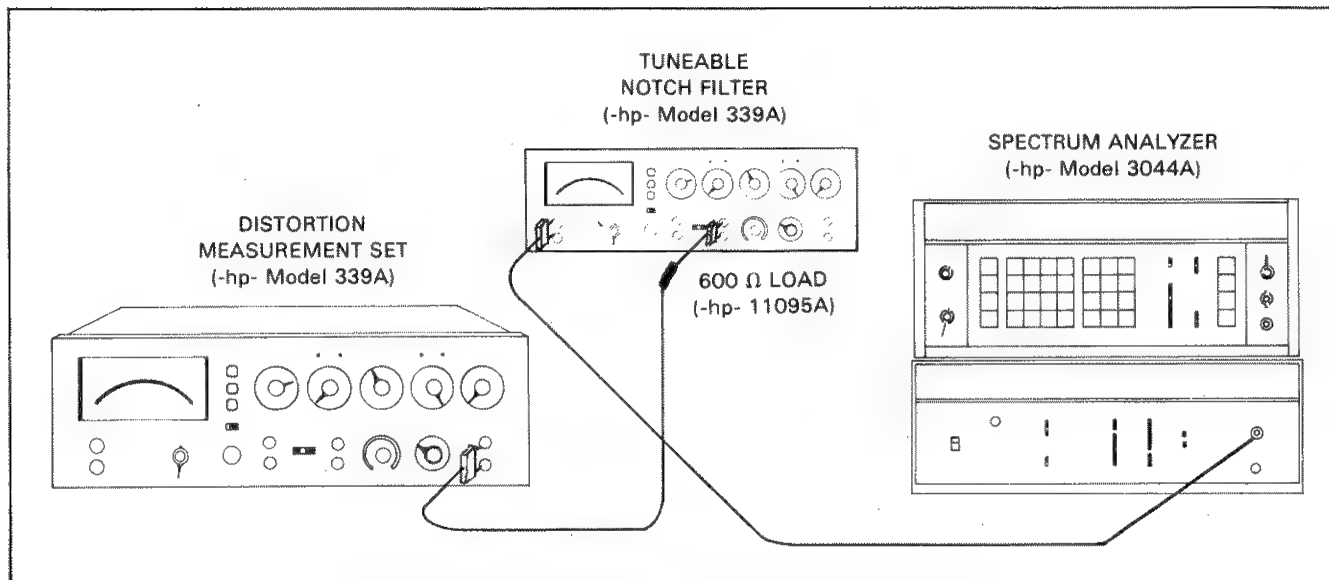

Figure 4-8. Oscillator Total Harmonic Distortion Test.
b. Connect the equipment as shown in Figure 4-8.